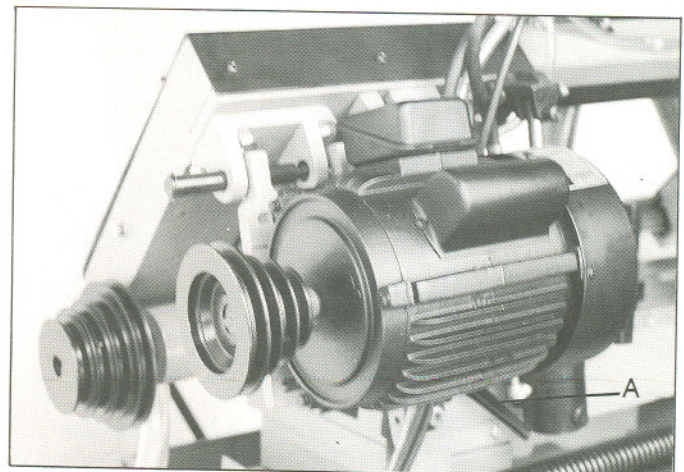

Fig. 6
3. Support motor with one hand while loosening lock handle (A - Fig. 6). Lower motor gently.